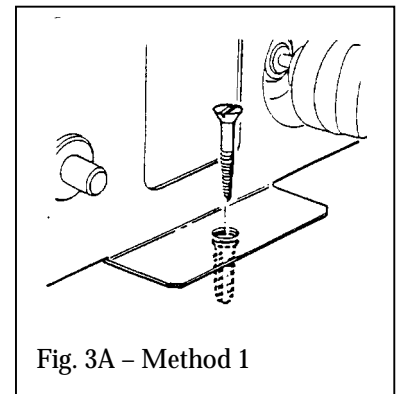
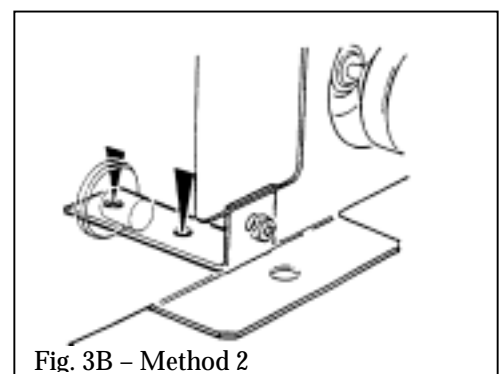

Fig. 3A – Method 1
Fig. 3B – Method 2
The burner unit can be fixed in the fireplace in two alternative ways. Method 1 ( see fig 3a ) is the simplest but if the hearth is such that the drilling a fixing hole in the hearth would be difficult or unsightly method 2 ( see fig 3b ) should be employed.
- Mark on the fireplace floor the position of one of the fixing holes in the bracket which will require attachment to the front leg see fig 3b. There are two holes in this bracket to allow the soundest and most even surface of the fireplace floor to be used for fixing.